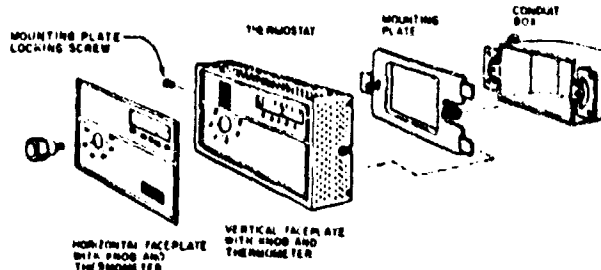

Fig. 2—Line drawing illustrating method of mounting a vertical thermostat to a horizontal outlet box and installing a horizontal faceplate.
4. Remove mounting plate, see Figs. 2 and 3, and fasten plate to outlet box with screws provided in mounting plate.
7. Tighten mounting plate locking screw, Figs. 2 and 3.